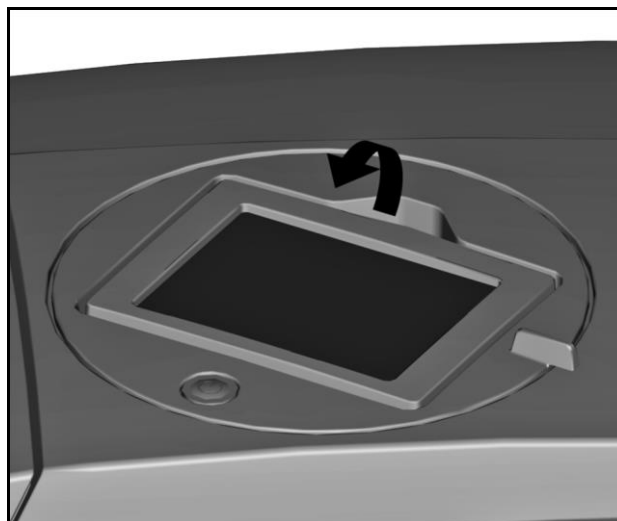

Figure 11 Touch panel lowered
- 1 Raise the touch panel to the desired position (see "Figure 11 Touch panel lowered").